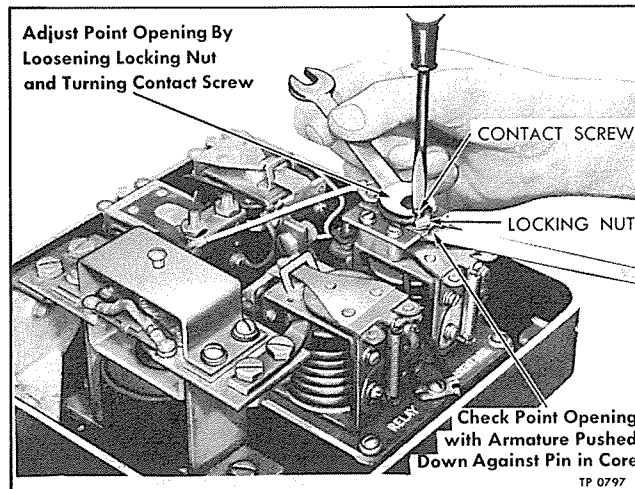

Figure 10—Current Regulator Point Opening Check and Adjustment
1. Check point opening with armature held down against core (fig. 10). Opening should be same as listed under "Specifications" later in this section.
2. To adjust, loosen lock nut and turn contact screw (fig. 10) until gap specified under "Specifications" later in this section has been